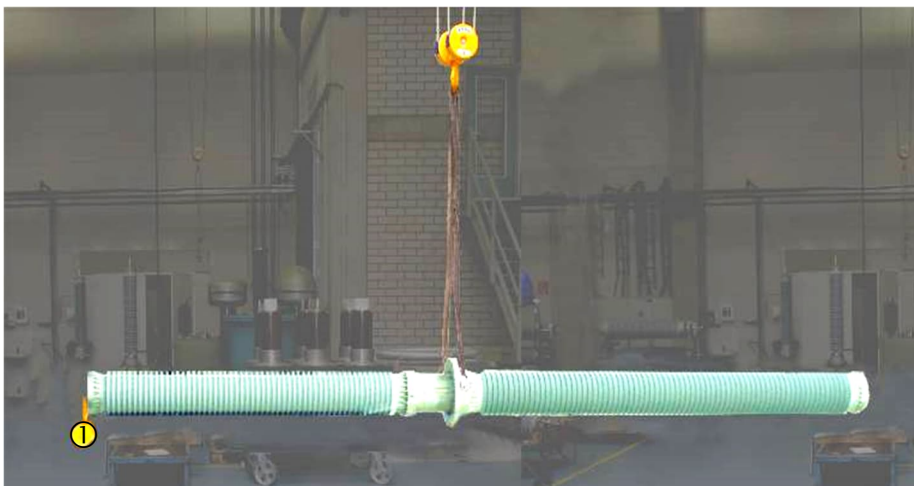

Fig 10: Lifting of a bushing using a counterweight (1)
To do this, the bushing is fitted with an additional weight (1) at the lighter head end, the size of which must be balanced (Fig. 10).